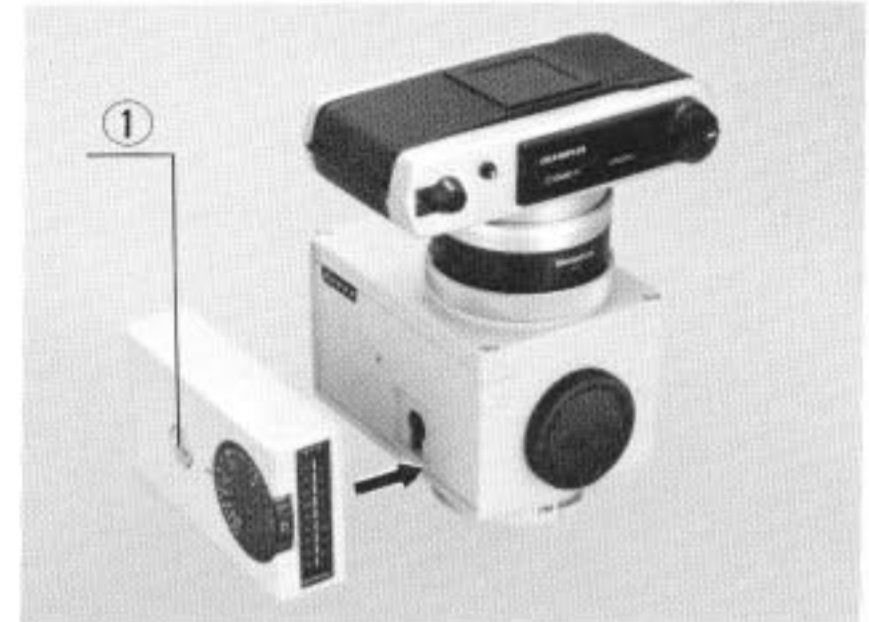

Fig. 21
- b) Attach the module by means of the clamping screw ① of the module, using a coin to lock it firmly. (Fig. 21)